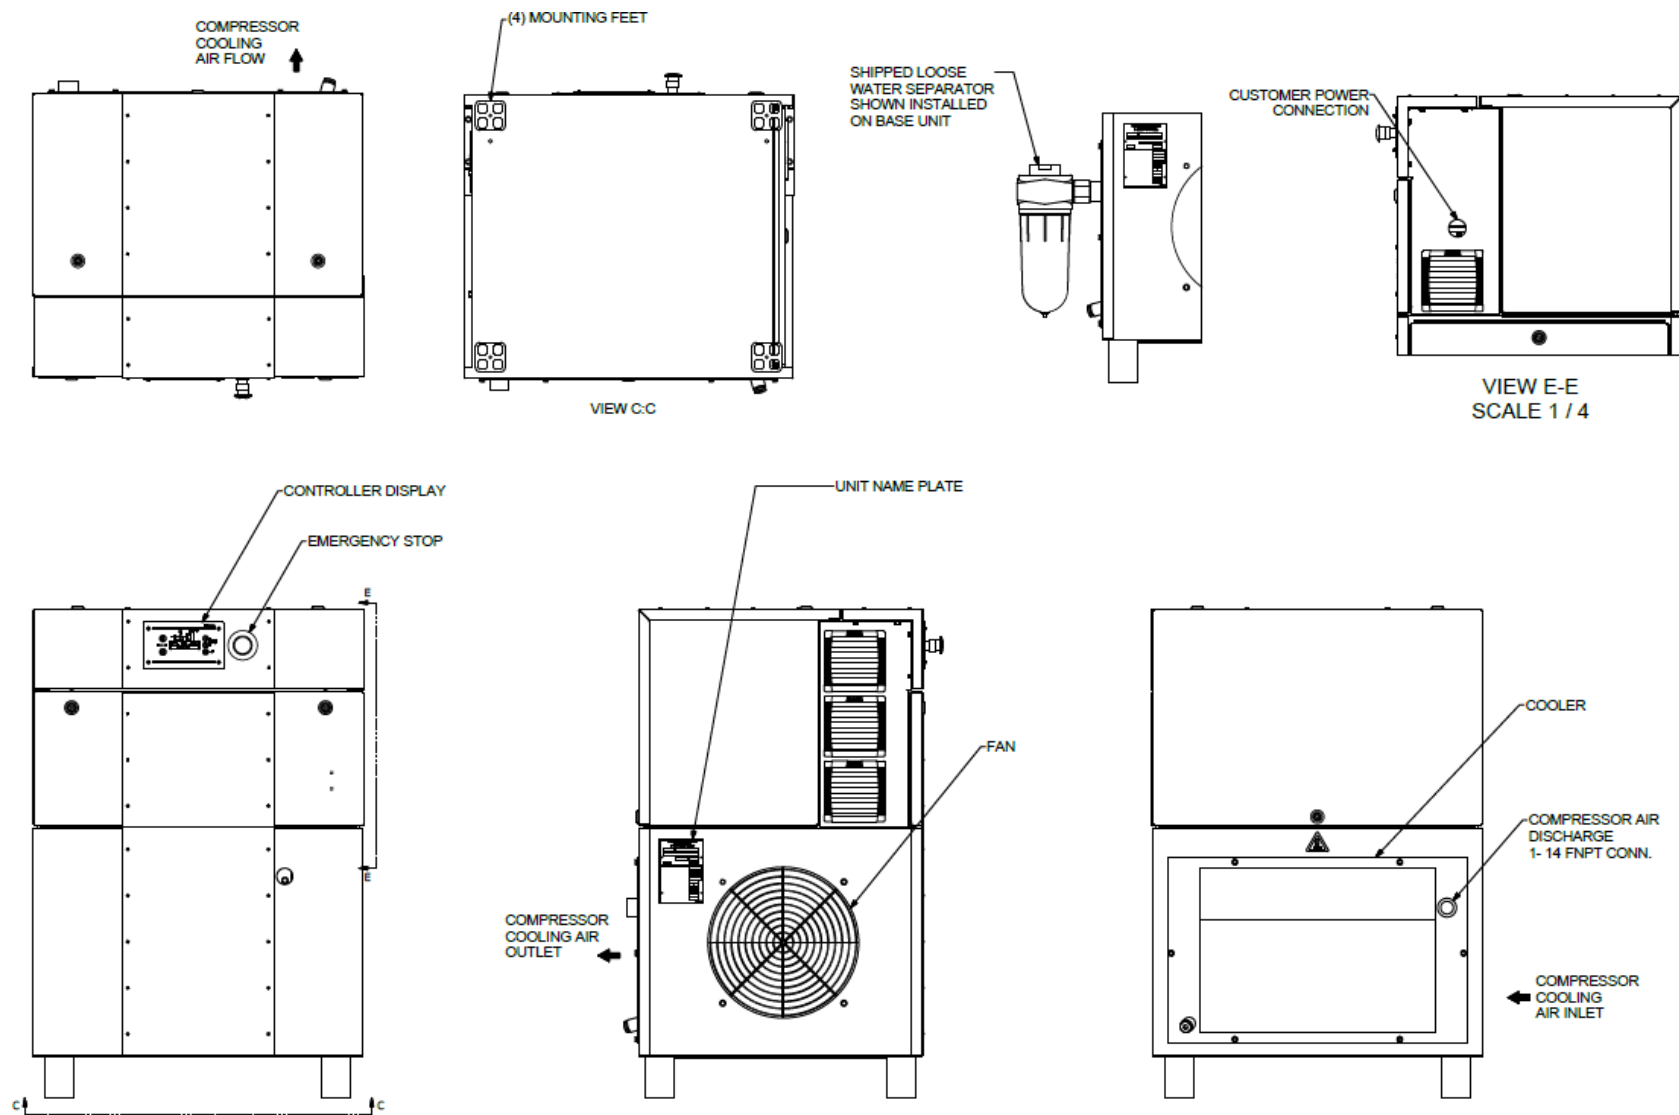

FIGURE 1-2 COMPRESSOR ILLUSTRATION, BASE MOUNT UNIT
AIR-COOLED UNIT - A combination oil/air cooler is supplied as standard equipment on all air-cooled units. A shaft driven axial fan supplies the ventilation needs for the oil/air cooler and electric motor cooling (Figure 1-2). Air is drawn into the unit through the left side panel, over the motor and discharged through the cooler cores. Do not block the air flow to and from the unit. Allow three and one half (3-1/2) feet to the nearest obstruction on the control box end of the unit. Allow two (2) feet to the nearest obstruction above and on other sides of unit.